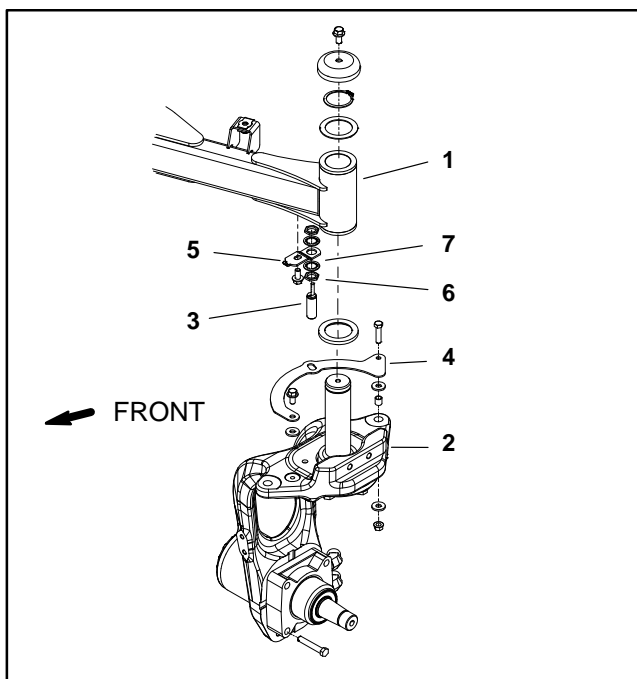

Figure 52
The steering home sensor is a normally open proximity sensor. The sensor mounts to a bracket that is secured to the bottom of the front axle near the left side front steering fork (Fig. 52). The sensing plate for the steering home sensor is a target bracket attached to the left side front steering fork.
3. Locate steering home sensor and target bracket on LH front steering fork (Fig. 52).